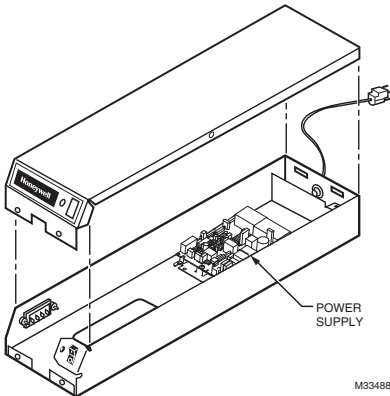

Fig. 2. Power supply location on F50F and F58F.
- ❑ Disconnect the leads from the old power supply. See Fig. 2 through 5.